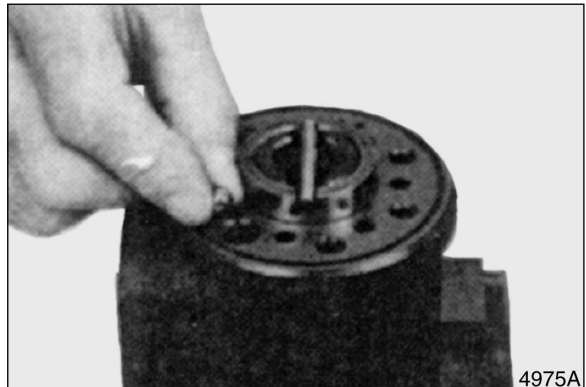

Figure 45
15. Insert ball into hole. See Figure 45.